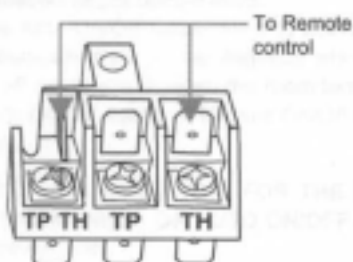

Figure 1
3. Connect the wires labeled "Main Valve" to the Millivolt generator and Millivolt valve (see Fig.1).